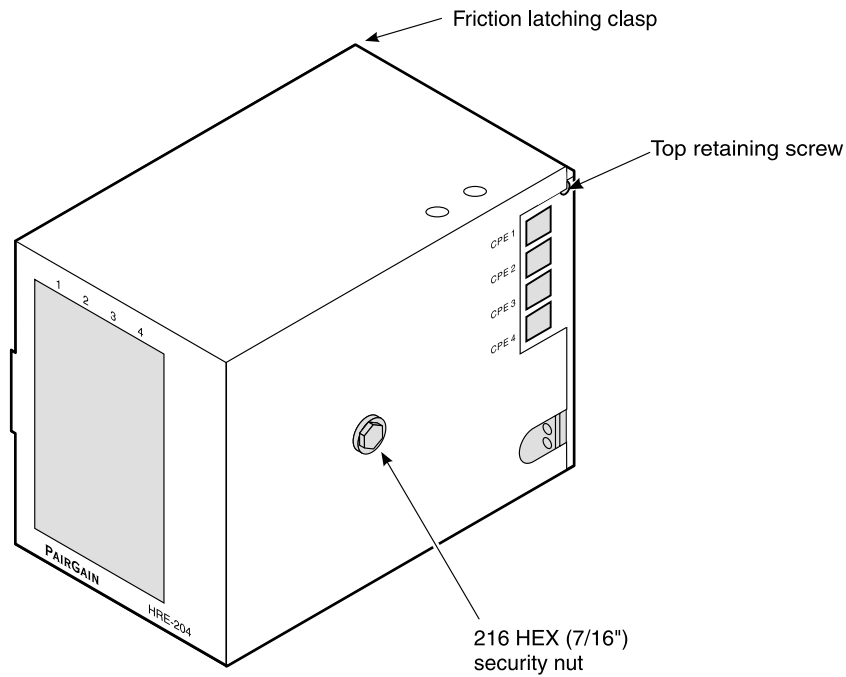

Figure 4. Side Panel Assembly
- 1 Loosen the 216 HEX security nut on the side panel (Figure 4) with a $\frac{7}{16}$ -inch CAN wrench.
- 1 Loosen the 216 HEX security nut on the side panel (Figure 4 on page 6) with a $\frac{7}{16}$ -inch CAN wrench.